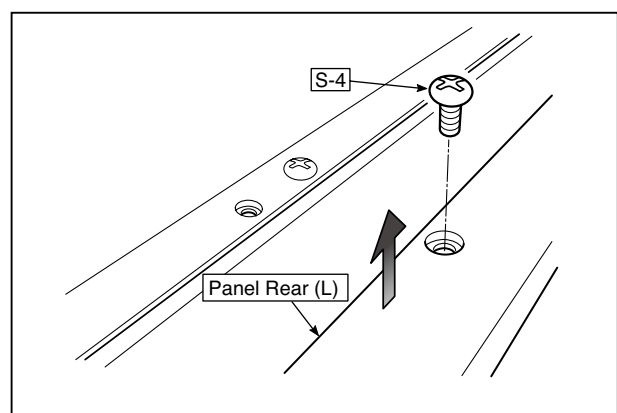

Fig.29
2. Remove the "S-4" screws shown in the figure 29 and then remove the Panel Rear (L).